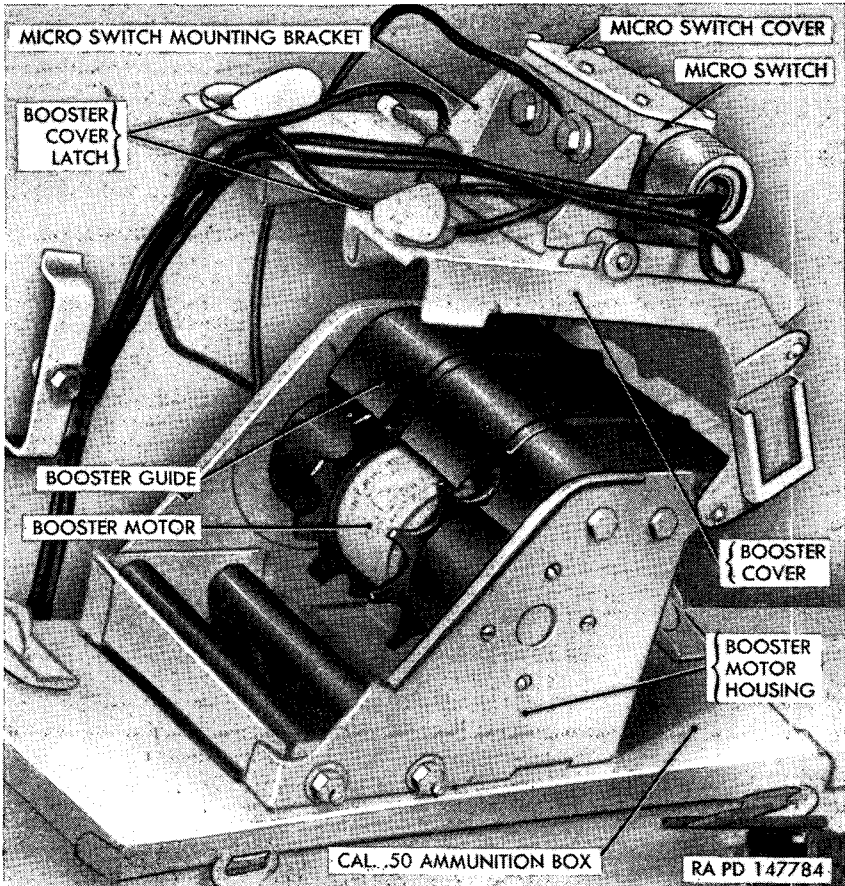

Figure 303. Booster motor and ammunition chute micro switch—booster cover removed.
l. BOOSTER MOTOR. The booster motor is located within the booster motor housing located on top of the ammunition box (fig. 303). It serves to feed ammunition to the cal. .50 machine gun.
n. **AMMUNITION CHUTE MICRO SWITCH.** The ammunition chute micro switch is located on top of the booster motor housing (fig. 303). It serves to open the machine gun firing circuit when the ammunition chute jams.
a. **REMOVAL** (fig. 303). Turn off master relay switch (fig. 18). Disconnect booster motor positive cable (642) and two booster motor ground cables. Release two booster cover latches and lift up booster cover. Remove four screws and remove booster guide assembly. Remove eight screws and lift out booster motor.
b. **INSTALLATION** (fig. 303). Position booster motor inside motor housing and secure with eight screws. Install booster guide and secure with four screws and lock washers. Close booster cover and secure latches. Connect booster motor positive cable (642) and two booster motor ground cables.
a. REMOVAL (fig. 303). Turn off master relay switch (fig. 18). Remove six screws and remove ammunition chute micro switch cover. Disconnect two cables inside switch unit. Loosen cable connector nut and remove cables by pulling out of switch unit. Remove two screws securing switch to mounting bracket and remove switch.
b. INSTALLATION (fig. 303). Position switch to mounting bracket and secure with two screws and washers. Insert cables into opening in switch and secure to cable terminals with two screws. Tighten connector nut. Make sure cover gasket is in position. Position switch cover to top of switch and secure with six screws and lock washers.